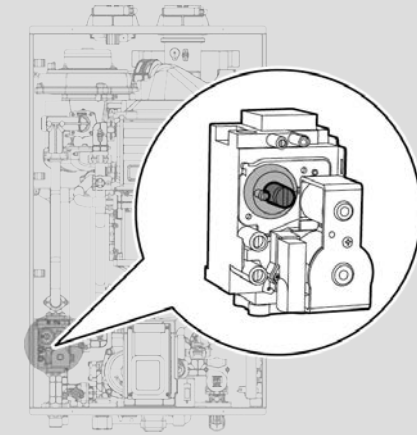

Figure 10
- c. Fully open a hot water fixture and set the boiler to operate at 1-stage MIN mode (refer to table 2). Measure the offset value at low fire and compare it to the values in Table 3. If the offset value is out of range, the gas valve set screw will need to be adjusted. If adjustment is necessary, locate the set screw as shown in Figure 10. Using a 5/32" or 4mm Allen wrench, turn the set screw no more than 1/4 turn clockwise to raise or counterclockwise to lower the offset value.